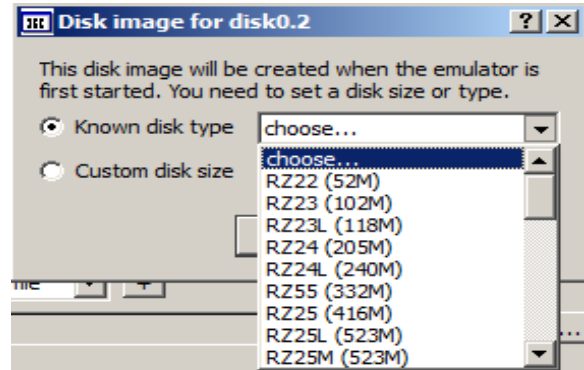

Figure 4: Disk type selection box
Avanti can create new image files, essentially creating new virtual disks, on startup. To create a new virtual disk, select **image file** in an unused disk location and click the browse button [...]. Navigate to the desired host system folder and type in the new disk file name. A disk type selection box will be displayed, as shown in Figure 4. If a custom disk size is required, click the **Custom disk size** button and enter the desired size in Megabytes (M) or Gigabytes (G).